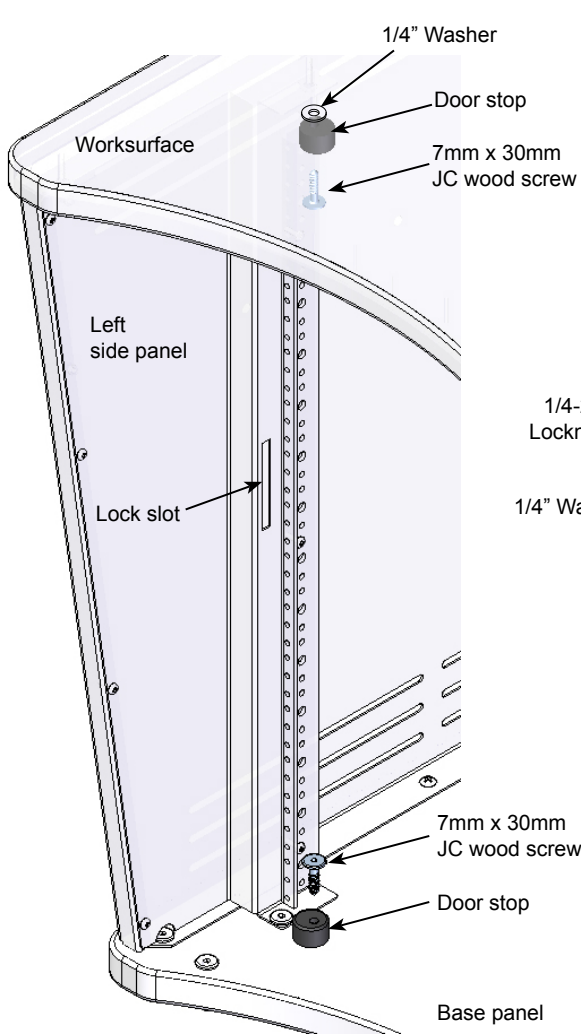

Figure 3A
1. On **36"H Inspiration lecterns**, open the door and install the upper door stop to the worksurface, and the lower door stop to the base panel—each with a 7mm x 30mm JC wood screw. **Figure 3A.**